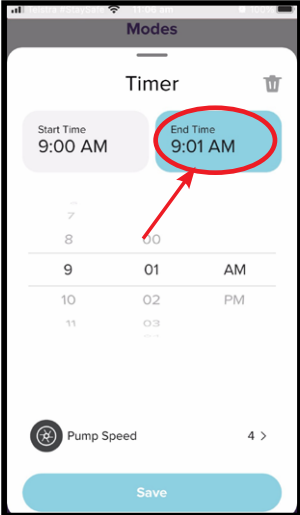

Figure 9.30
- To set the end time, first ensure you push the “End Time” button (refer Figure 9.30), then adjust the time as above.